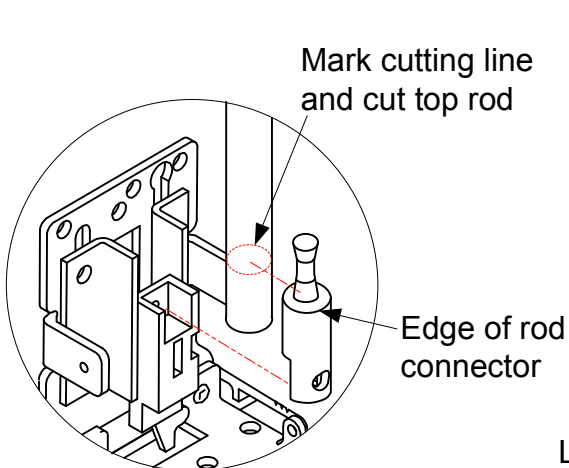

Figure 9
3. Measure and cut the length of the top rod. The length of the top rod is measured to the edge of the rod connector (see figure 9) which will be attached to the chassis.